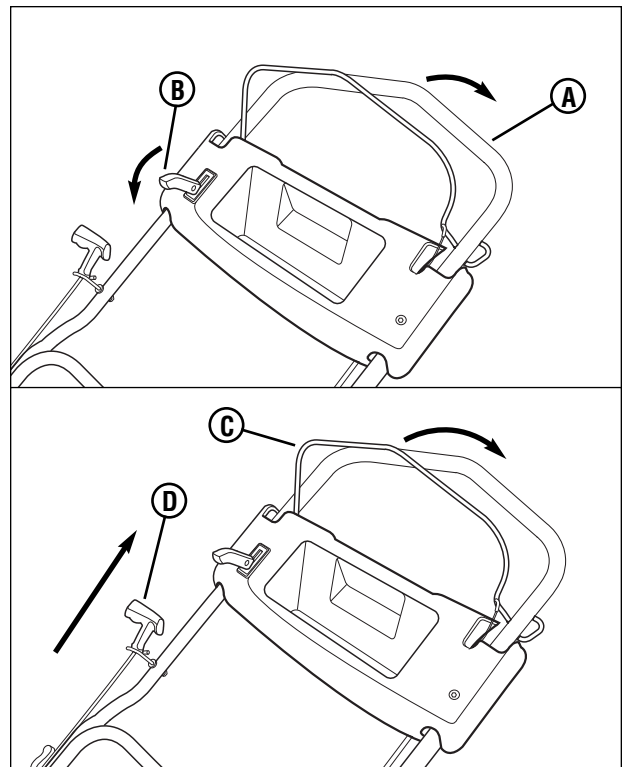

Figure 3: Starting the mower
1. Make sure the drive handle (**A, Figure 3**) is pulled fully back, and the drive handle lock lever (**B**) is pushed fully forward in the locked position.